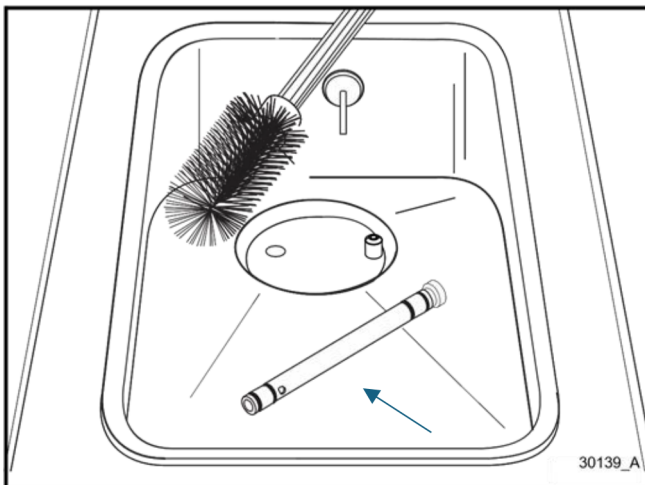

Figure 5-10
3. Lay feed tube into the hopper. (Figure 5-10.)